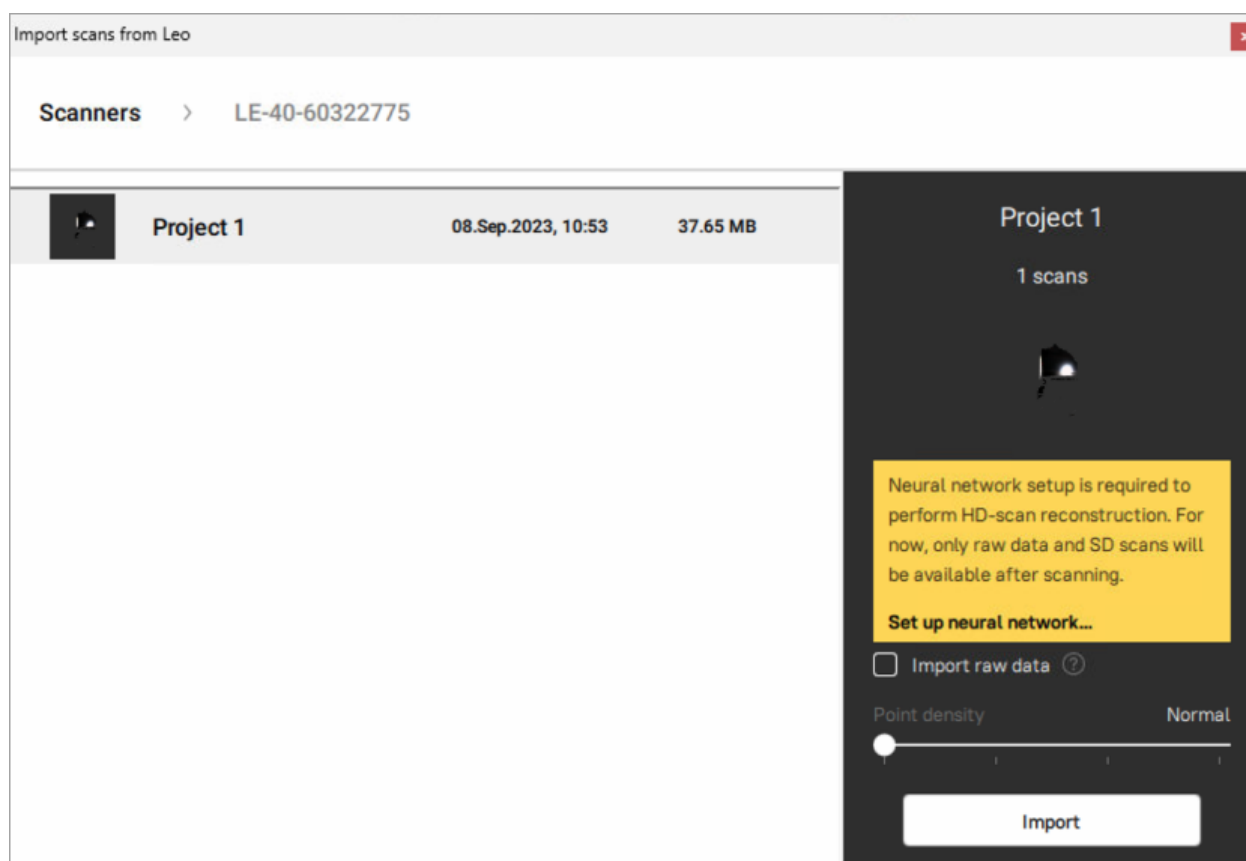

Figure 101: Dialog for selecting Leo projects to import.
5. Then using either **LMB** or **↑** and **↓** select the project that you want to load (Figure 101)